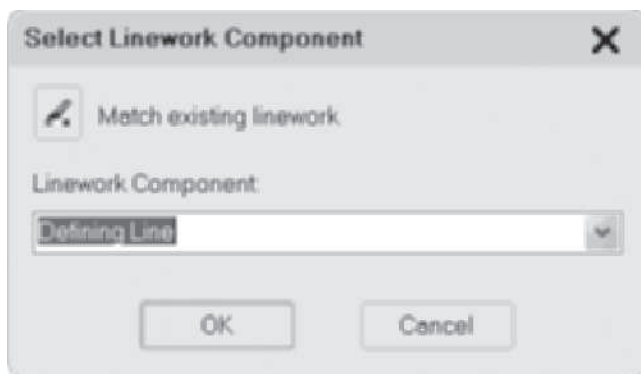

FIGURE 12.38 Defining display component for a selected line
8. Select an entity of the detail, right-click, and choose **Modify Component** to open the **Select Linework Component** dialog box as shown in Figure 12.38. Click the down arrow, choose **Defining Line**, the display component that was edited in step 4.